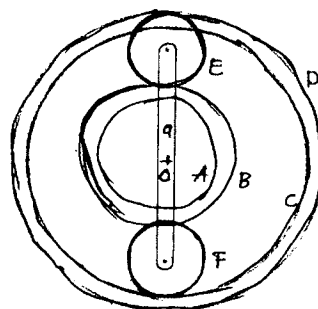

Fig.Q8(b)
b. In an epicyclic gear train shown in Fig.Q8(b), the compound wheels A and B as well as internal wheels C and D rotate independently about the axis O. The wheels E and F rotate on the pins fixed to the arm 'a'. All the wheels are of the same module. The number of teeth on the wheels are  $T_A = 52$ ,  $T_E = T_F = 36$ . Determine the speed of C if: